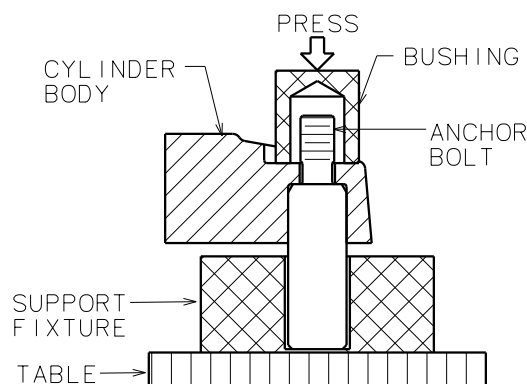

Figure 305 - Anchor Bolt Installation
- 1 Install anchor bolts using an arbor press and a holding fixture. Refer to Figure 305. Ensure that bolt is **perpendicular** to the cylinder and **parallel** to one another.
(2) Installation of Pistons